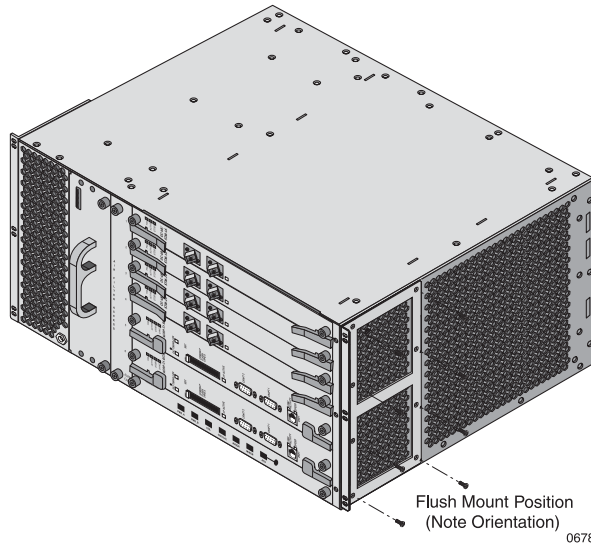
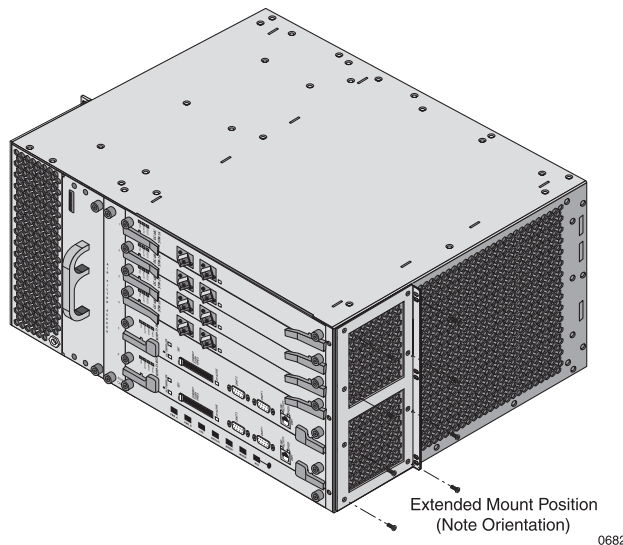

Figure 3 *Installing Chassis Brackets for Flush Mount Position*
Figure 4 *Installing Chassis Brackets for Extended Mount Position*
1. Position a mounting bracket against one side of the chassis, lining up the screw holes in the bracket with the screw holes in the side of the chassis, according to the mounting option you have selected. Refer to the proper orientation for installing the brackets in Figure 3 and Figure 4.